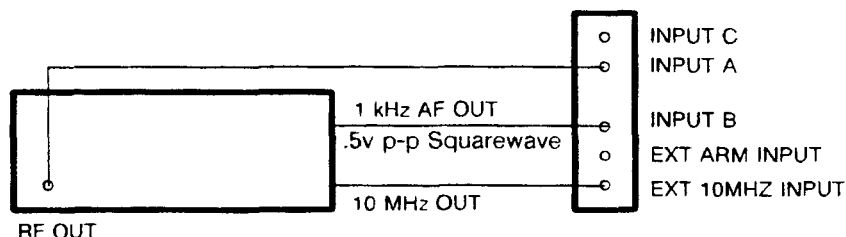

Figure 5-7. Totalize A by B Test Configuration
2. Connect the VX4223 to the signal generator as shown in Figure 5-7. Set the signal generator to 10 MHz, 0 dBm. Verify that the counter's measurement result is 5000 ± 1 .